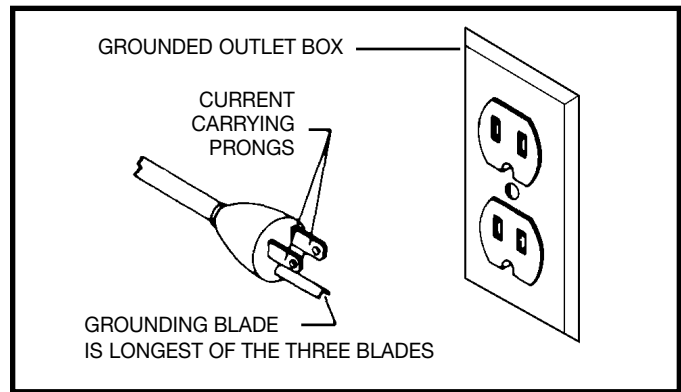

Fig. 91
Use only 3-wire extension cords that have 3-prong grounding type plugs and 3-hole receptacles that accept the tool's plug as shown in Fig. 91.
1. This tool must be grounded while in use to protect the operator from electric shock. The motor recommended for use with your saw is shipped wired for 115 volts and is intended for use on a circuit that has an outlet which looks like the one illustrated in Fig. 91. The tool is supplied with a three-prong grounding type plug which is also illustrated in Fig. 91.